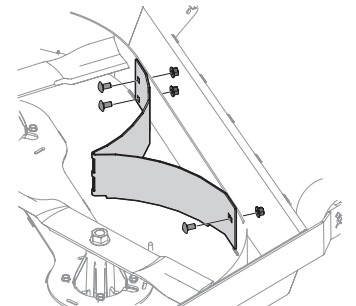

Figure 7
3. Install left baffle using three carriage bolts (710-3178) and three hex flange nuts (712-05007). See Figure 7.